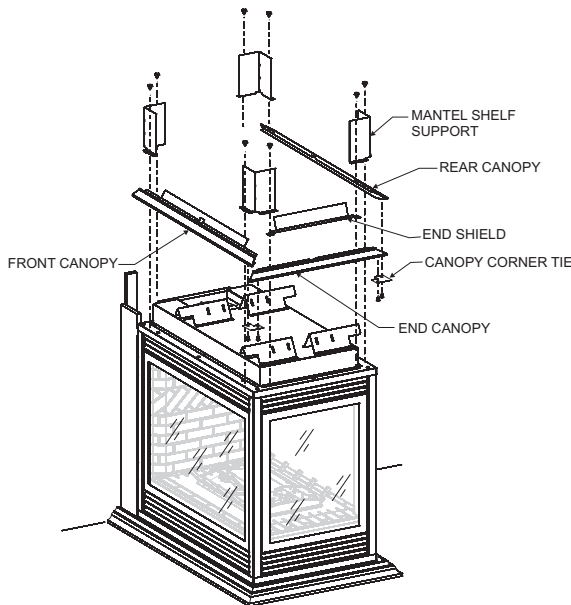
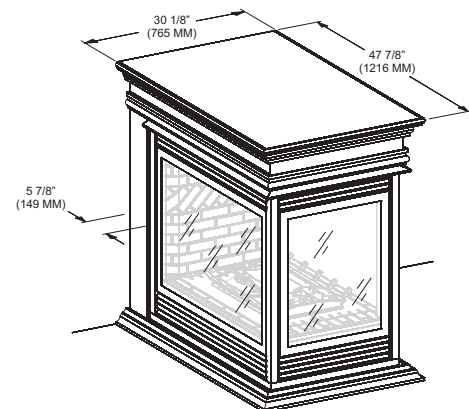

Figure 5
Figure 7
1. Install (2) of the Mantel Corner Brackets at the vent end corners first. Loosely attach each bracket with one #10 x 1/2" Hex Head screw through the rear flange and into the pilot hole on top of the fireplace. **See Figure 5.**
Figures 5 and 6 show placement of the corner brackets, canopies, and the end shield. **Figure 7** shows a finished view of the fireplace mantel, top and base.